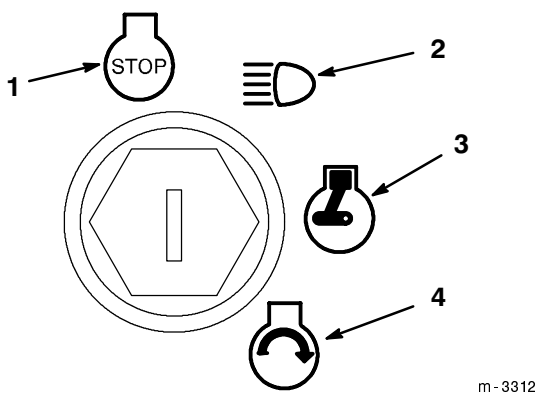

Figure 15
6. Turn the ignition key clockwise and hold it in the start position (Fig. 15).
3. Turn the ignition key to the stop position (Fig. 15).